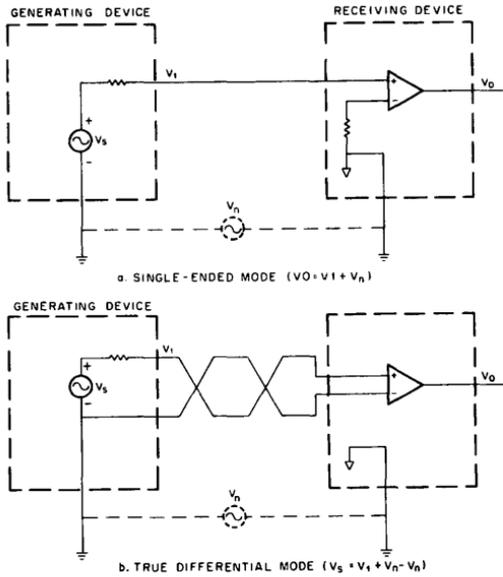

Figure 9 Single-Ended vs. True Differential Input Modes
**Quasi-Differential Mode** — The “quasi” prefix in “quasi-differential” can best be explained by reviewing a true differential operation. A true differential input involves two signal lines connected to a differential amplifier so that the output of the device is a function of the instantaneous *difference* between the voltages on the two signal lines. One advantage of such a configuration is illustrated in Figure 9.